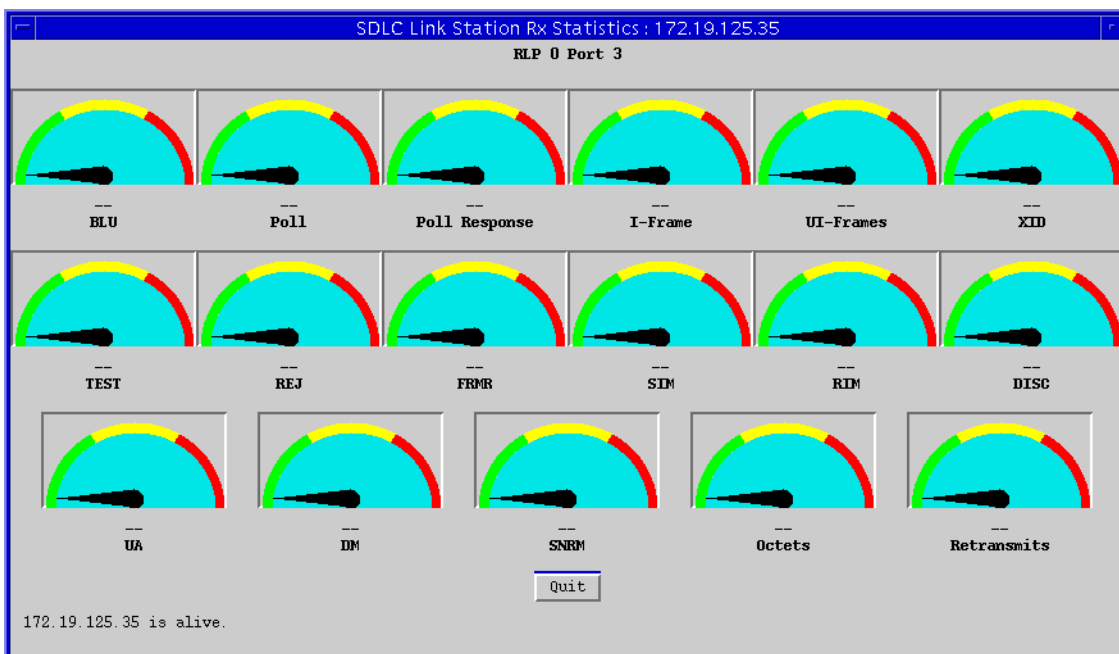

Figure 7-9. SDLC Link Station Rx Statistics
2. Drag down to **SDLC LS Rx Stats** or **SDLC LS Tx Stats**, and release. The SDLC Link Station Rx or Tx Statistics window will appear. The SDLC Link Station Rx Statistics window is shown in Figure 7-9.